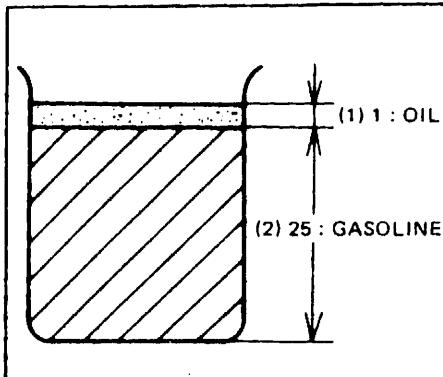

Fig. 5
1. Use TANAKA two-cycle engine oil, or a quality two-cycle oil that is made to mix at one specific ratio between 25:1 and 50:1 (gasoline: oil). It is very important to follow the oil manufacturer's recommended mixing ratio, as some oils have been designed to mix at one ratio. If your oil does not indicate recommended mixing ratio, mix at 25:1 (gasoline: oil). The fuel should be premixed prior to pouring into the fuel tank.(Fig.5)